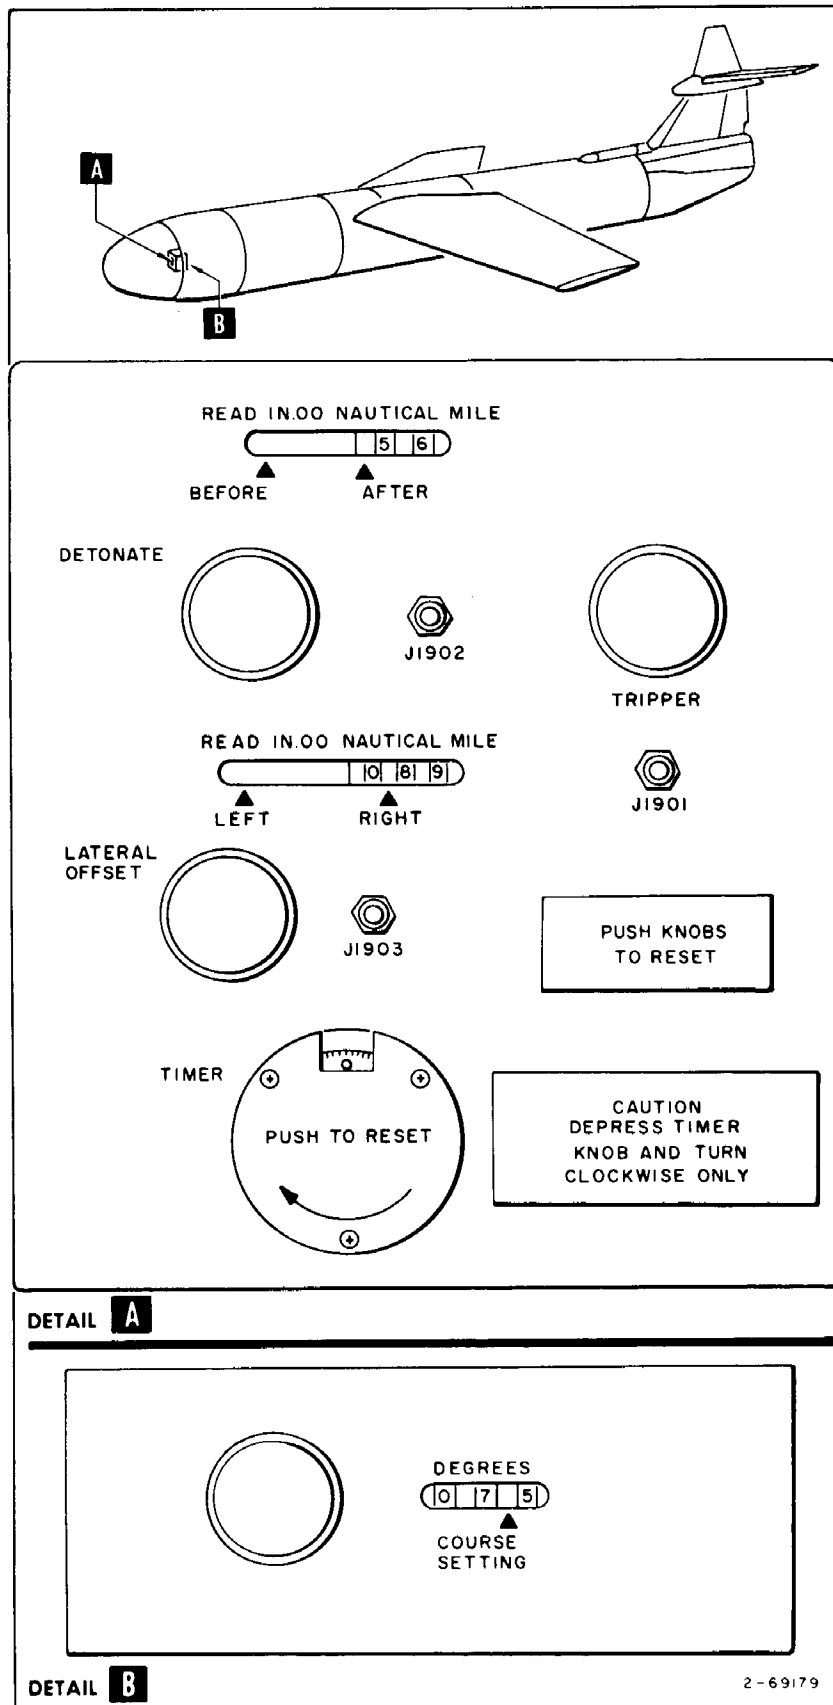

Figure 3-3. Control Program Unit (Effectivity D)
- b. Adjust AGP TIMER control (figure 3-3) in accordance with Prelaunch Data Card.